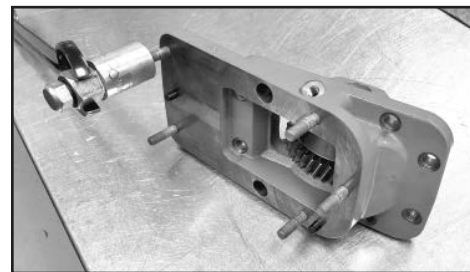

Figure 3
- a. Install 5 studs on the PTO side of the adapter using a stud driver or wrench (**Fig. 3**).